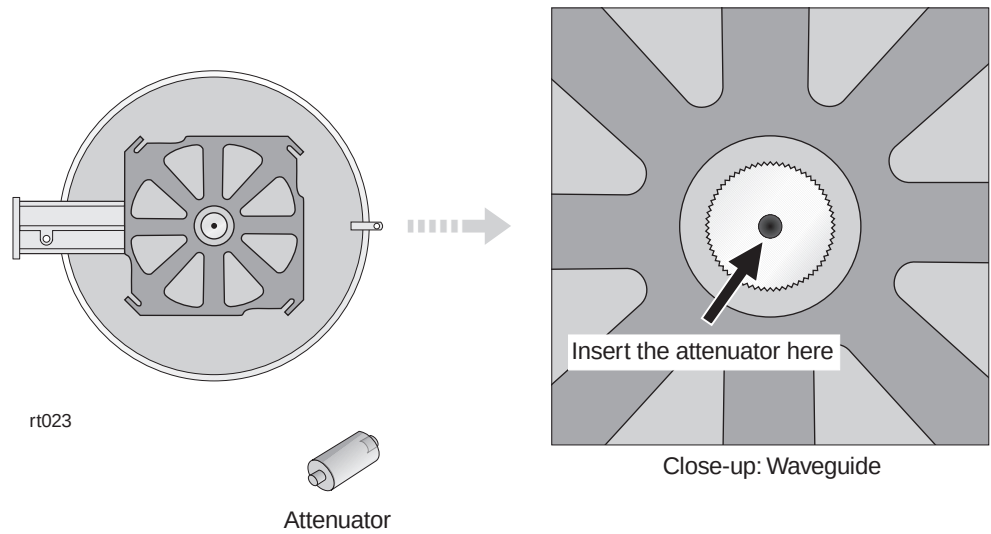

Figure 6-18 Installing the mechanical attenuator
1. Locate the circular waveguide on the rear of the antenna. See figure 6-18.
2. Insert the mechanical attenuator in the circular waveguide, as shown in figure 6-18.